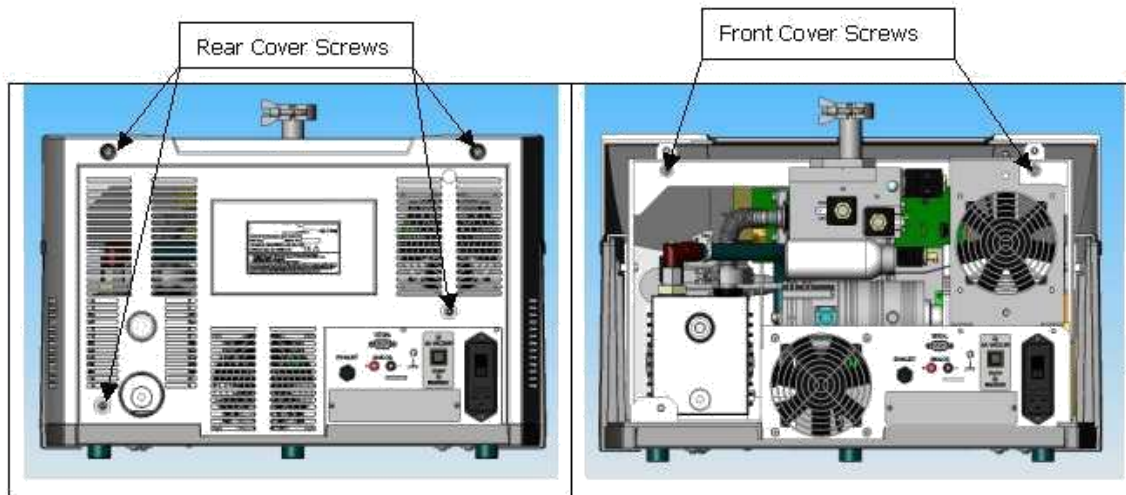

Figure 1: Covers
3. Using an extended length M5 Allen wrench, remove the four screws holding the rear plastic cover (“Figure 1: Covers”) and detach the rear plastic cover from the unit.
4. Remove the four screws holding the front plastic cover and detach the cover from the unit. Two screws are situated at the front of the unit (not shown) and two screws are positioned inside the unit (“Figure 1: Rear and Front Cover Screws”).